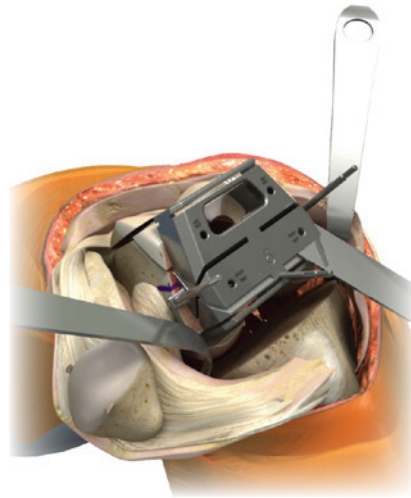

Figure 17b
4. Complete the anterior, posterior and chamfer cuts with an oscillating saw. The block is designed to allow for angling of the sawblade during the cuts (Figure 17b).